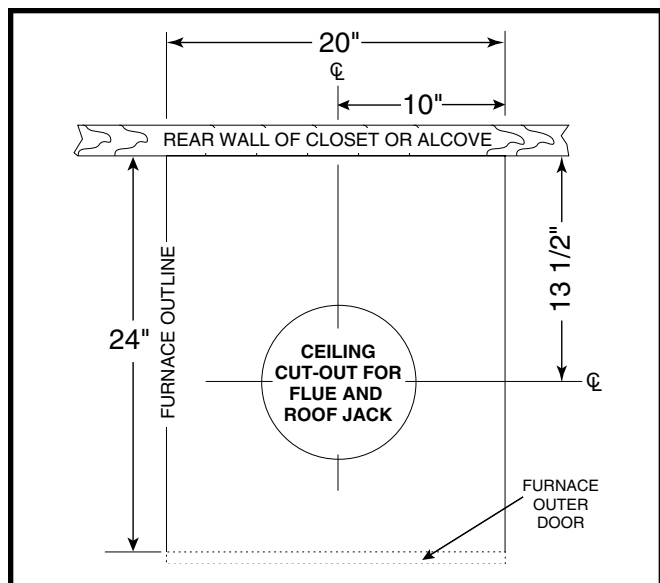

Figure 19. Cut-Out Dimensions for Flue & Roof Jack
1. Locate center of roof jack opening, measure 13 1/2" from the rear wall of closet or alcove along the center line of furnace and floor opening. See Figure 19.